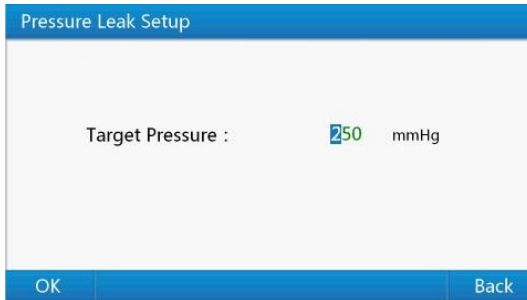

Figure 11 Target pressure setup interface
- 2) This interface displays current target pressure, you can set the target pressure by using right key to enter the setting interface shown as Figure 11. In this interface, use the number keys to input target pressure, and after entering a digit, the cursor will automatically move to next digit for input. After input the target pressure, press "Enter Key" to save. In this interface, pressing "Return Key" can get back to "Pressure Leak Test" interface.